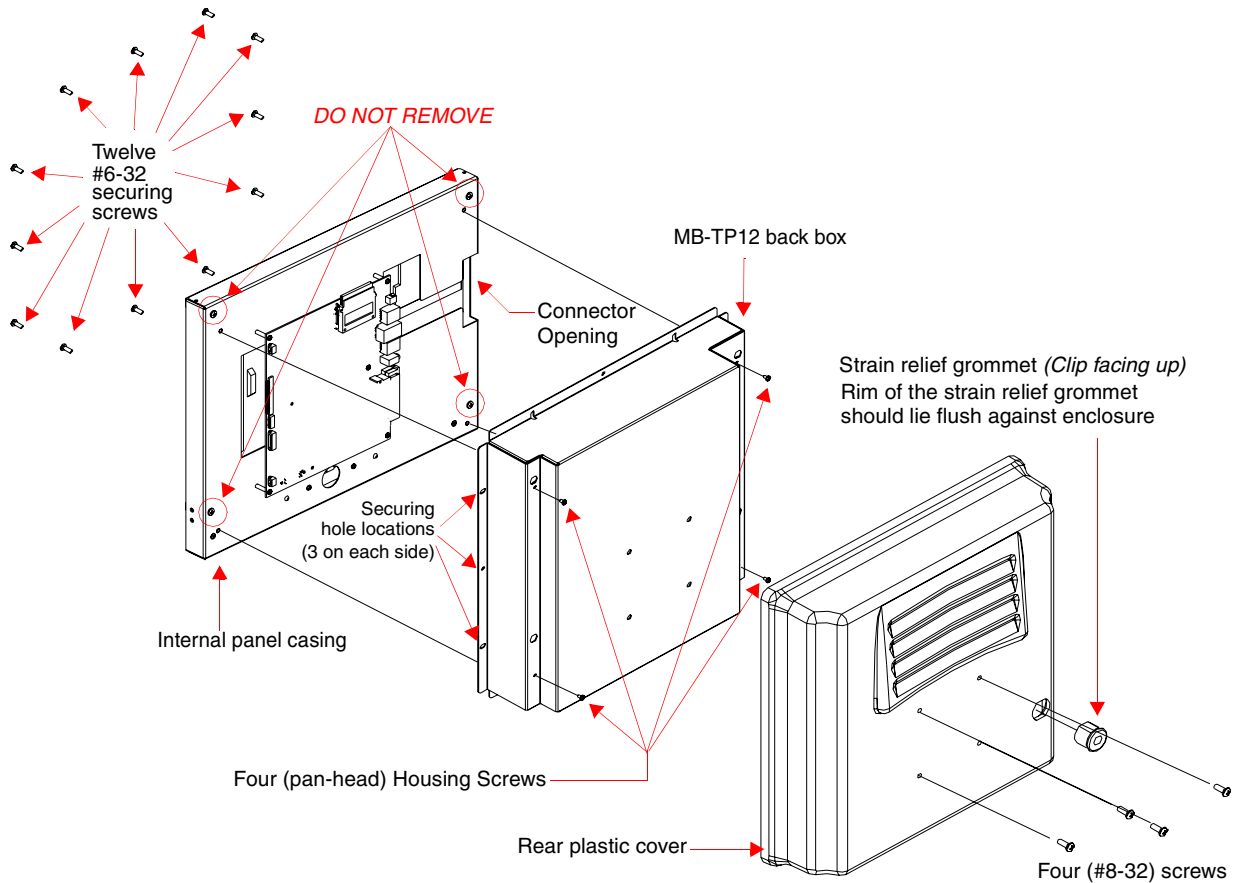

FIG. 33 Location of the attachment screws on the NXD back box and VESA housing
3. Re-install and secure the four pan-head Housing Screws into their pre-drilled holes along the edges of the MB-TP12 back box (FIG. 33) and secure them using a grounded Phillips-head screwdriver.
2. Thread the incoming cables through the strain relief grommet opening on the rear plastic cover (FIG. 33).
5. Firmly push the Strain Relief Grommet into the opening (toward the inside) until the rim is securely flush against the back of the rear plastic cover (FIG. 33).
8. Insert and secure the twelve #6-32 securing screws into their pre-drilled holes along the edges of the NXD unit (FIG. 33). This step secures the NXD unit to the rim of the rear plastic cover.
9. Align a VESA mount connector (purchased separately) to the four #8-32 screw holes on the back of the rear plastic cover (FIG. 33).